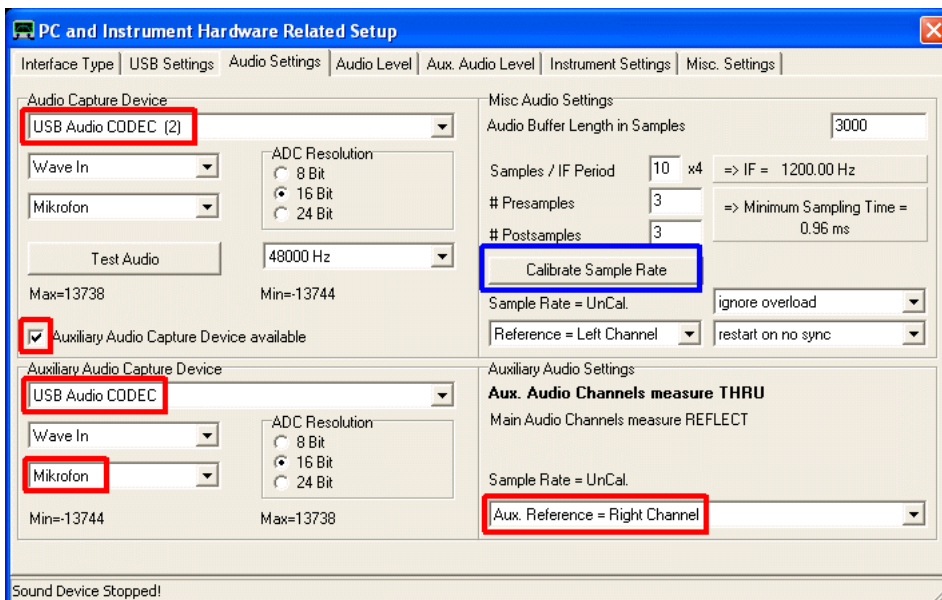

Fig 1. Configuration of Auxiliary Audio Capture Device
3.1.2 Select Tab "Audio Level" and tick the box "Auxiliary Audio Capture Device Available" in fig 1. which is applicable for Windows XP operating system. This will bring up the configuration of the Auxiliary Audio Capture Device. Change the settings as shown in fig 1.
If the "Auxiliary Audio Capture Device available" checkbox is NOT shown in fig 1., then exit VNWA application and add the line AuxAudio=1 to the file VNWA.ini with a text editor and then restart the VNWA Application.
3.1.3 Press the button "Calibrate Sample Rate" as shown in fig 1. If Sample Rate Calibration fails (First pulse not detected) then reverse the two USB Audio Codec devices and test again (.ie. Audio Capture becomes "USB Audio Codec" and Aux. Audio Capture becomes "USB Audio Codec 2").
3.1.5 Connect a short coax cable between TX and RX ports and check the Reflect sinewave in fig 1. now becomes a flat blue line.
Troubleshooting: If the above displays are not obtained then check the USB-Audio Settings in fig 1. and perform step 3.1.3 again.